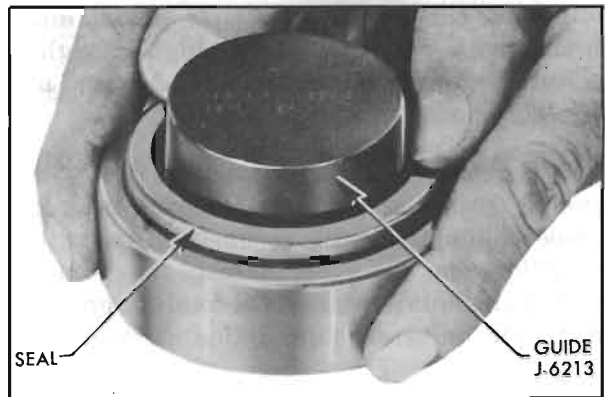

Figure 6-7—Installing Rear Wheel Bearing Oil Seal
3. If seal only is defective, pry old seal from bearing. Examine seal lip surface of bearing for smoothness, then install new seal using Guide J-6213. Push seal in carefully with fingers until lip is over bearing inner race; then remove installing guide and drive seal in flush with a flat wood block. See Figure 6-7.